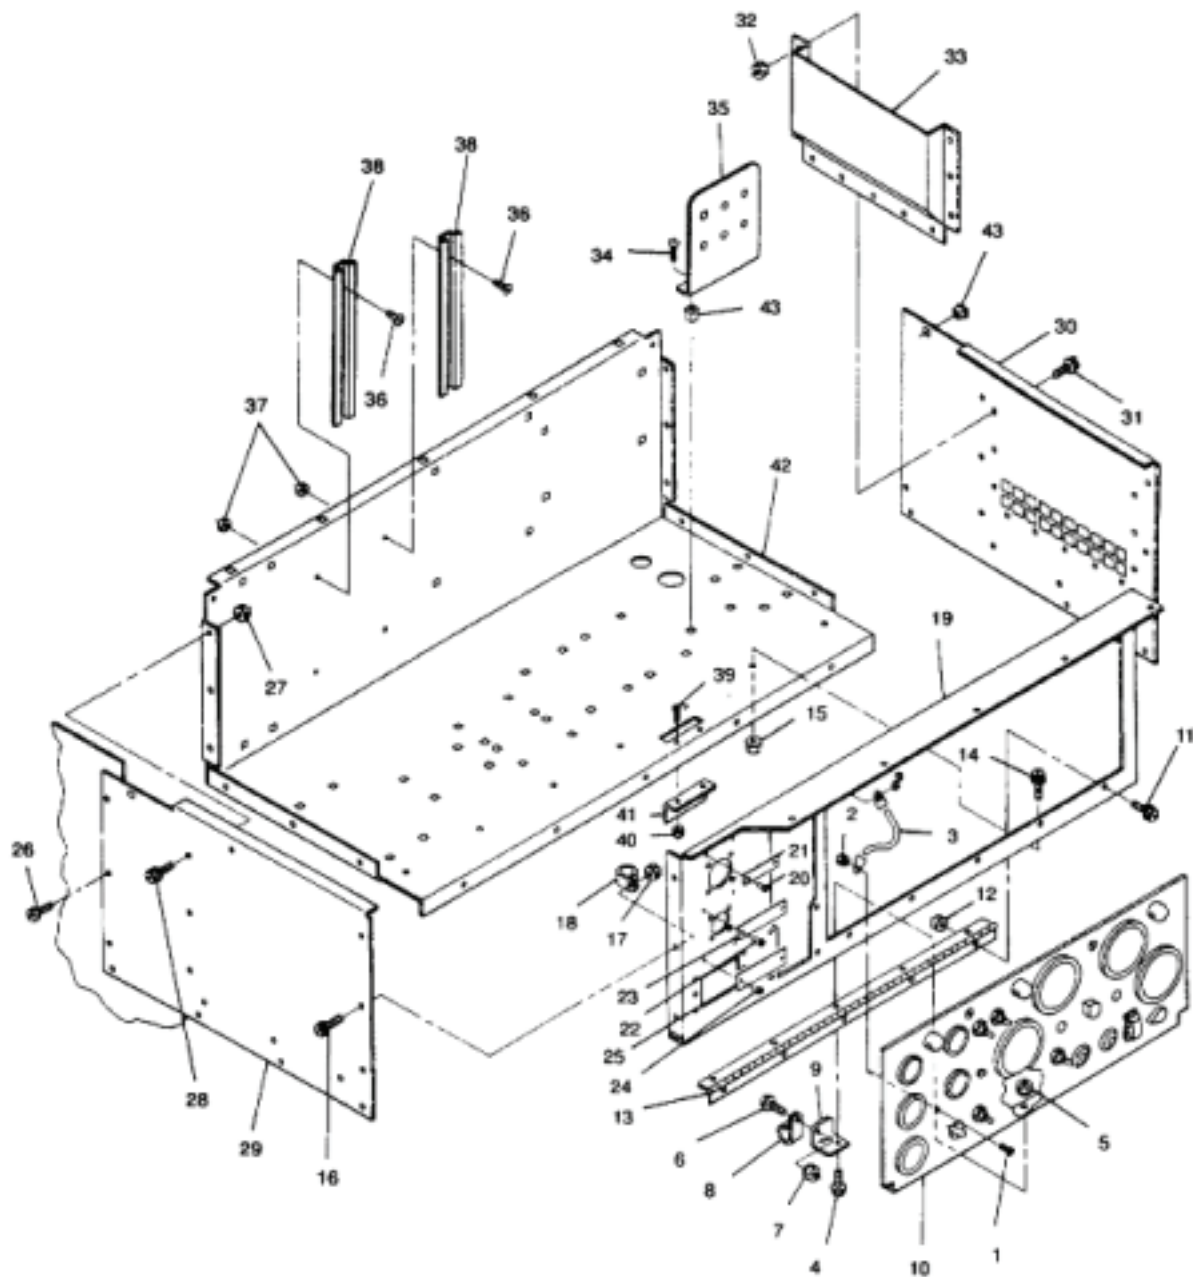

Figure 1. Control Box Panels.
7. Remove screw (Figure 1, Item 1), nut (2), and strap (3).
8. Remove bolts (4 and 6), nuts (5 and 7), bracket (9), clamp (8), and control panel (10) from control box assembly.
9. Remove bolts (11), nuts (12), and hinge (13) from control box assembly.
1. Install hinge (Figure 1, Item 13) on control box assembly with bolts (11) and nuts (12).
2. Install control panel (10), clamp (8), and bracket (9) on control box assembly with bolts (4 and 6) and nuts (5 and 7).
3. Install strap (3) on control panel (10) with screw (1) and nut (2).
WP 0067, Figure 1, Item 19
Inspect control panel frame (WP 0067, Figure 1, Item 19) for dents, cracks, loose paint, and corrosion.